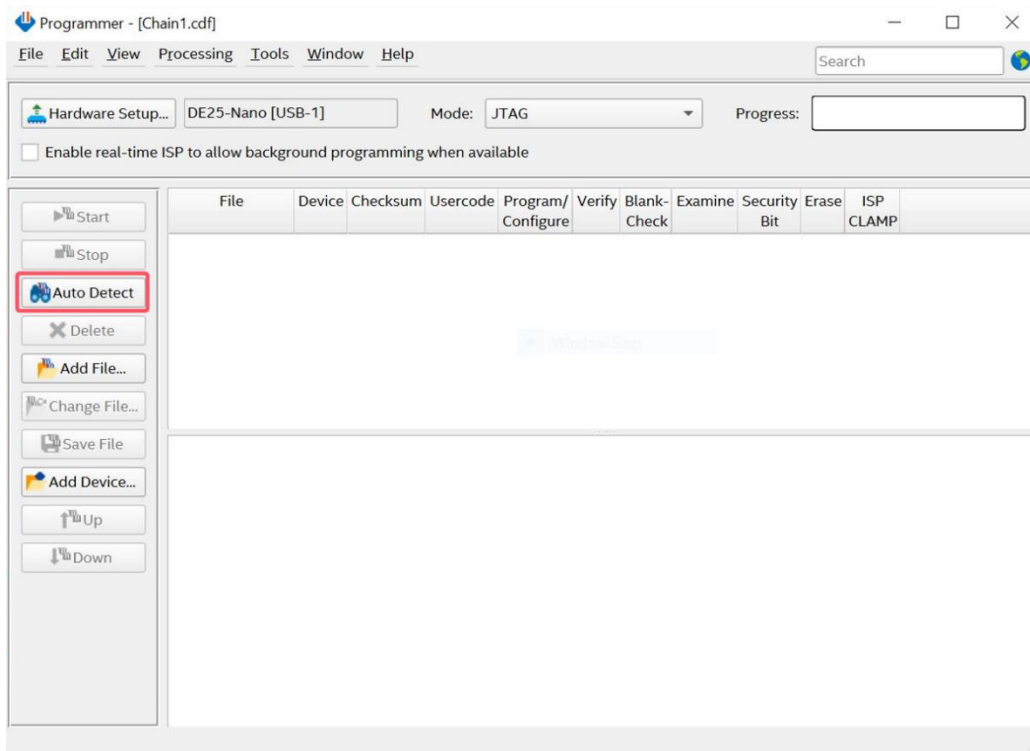

Figure 3-4 Detect FPGA device in JTAG mode
5. Open the Programmer and click “Auto Detect”, as shown in **Figure 3-4**